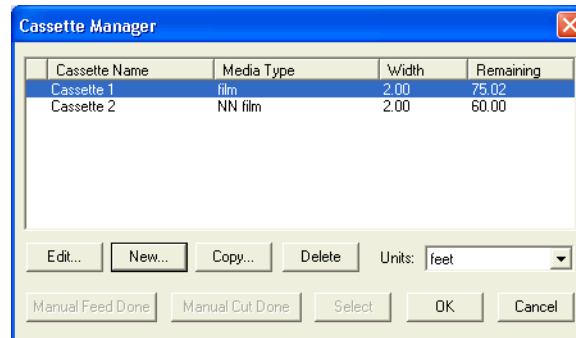

Figure 9.4 Cassette Manager dialog box
Before processing any jobs, you need to tell the RIP about the cassettes you are using and give details of the media currently in each cassette. You do this from the **Cassette Manager** dialog box. Click the **Cassette Manager** button in the Edit Page Setup dialog box or choose **Output > Cassette Manager** to open the Cassette Manager dialog box, as shown in Figure 9.4.
- If you perform a manual operation by using controls on the output device, you must inform the RIP. Display the Cassette Manager and click the button **Manual Cut Done** or **Manual Feed Done** whenever you perform the corresponding manual operation. See Figure 9.4, page 262, and the following description of the buttons.